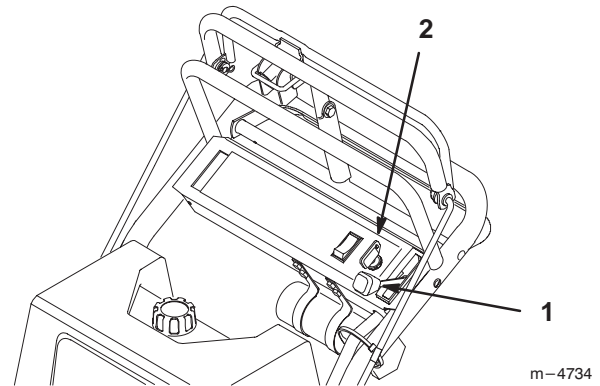

Figure 14
2. Move the shift lever to neutral, set the parking brake and turn ignition key to RUN (Fig. 14).
3. Move the throttle control to CHOKE position before starting a cold engine (Fig. 14).
1. Move the throttle lever to “SLOW” (Fig. 14).
2. Turn the ignition key to “OFF” (Fig. 14).